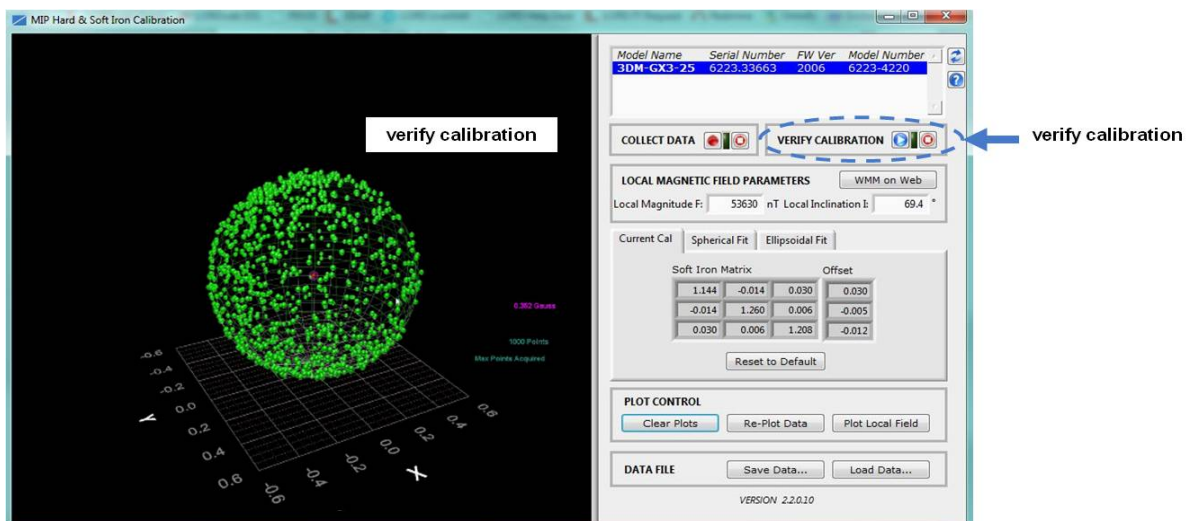

Figure 26 - Verify Calibration
9. Start a calibration verification by selecting the Start Streaming Data button next to Verify Calibration (Figure 26 - Verify Calibration). Rotate the device in all orientations in the same way as during calibration. When completed select the Stop Streaming Data button next to Verify Calibration. The resulting data points should be on or near the spherical grid. Hold the left mouse button and drag to rotate the image. Use the mouse wheel to zoom in and out. If the fit is not close, the sensor may require re-calibration. If it is close, as shown, calibration and verification is complete.